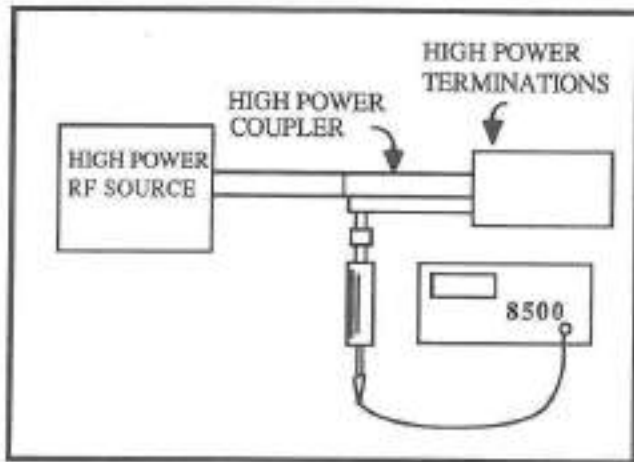
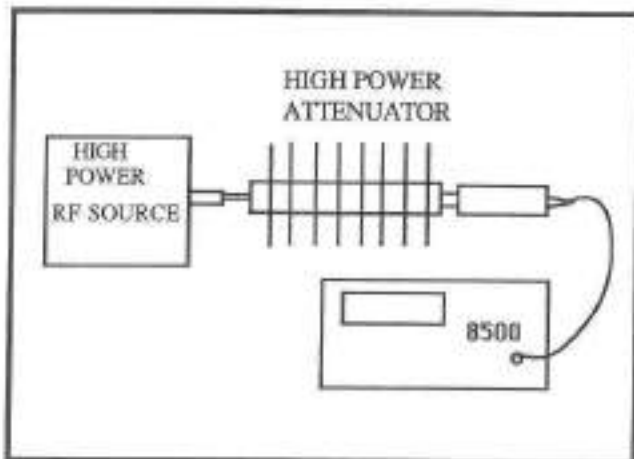

Figure 3-11. Detector Connection to a High Power Coupler
Figure 3-12. Detector Connection to a High Power Attenuator
5. Connect the high power coupler to the RF source to be measured as shown in Figure 3-11. If a high power attenuator is used,
connect as shown in Figure 3-12.
6. Connect the PPM detector with its attenuator to the coupled output of the high power coupler (Figure 3-11), or to the output of the high power attenuator (Figure 3-12).